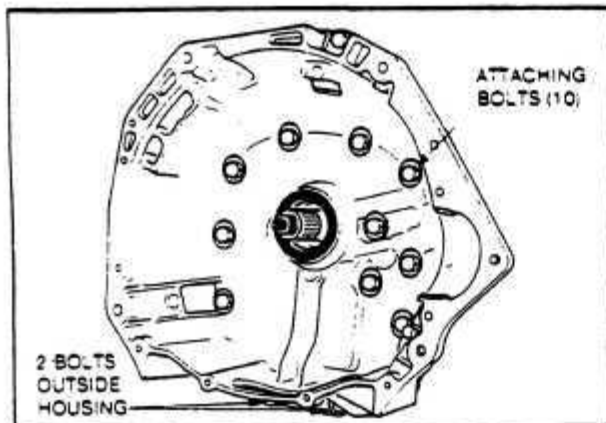

Fig. 66 CONVERTER HOUSING
2. Remove the torque converter housing. *Fig. 66*